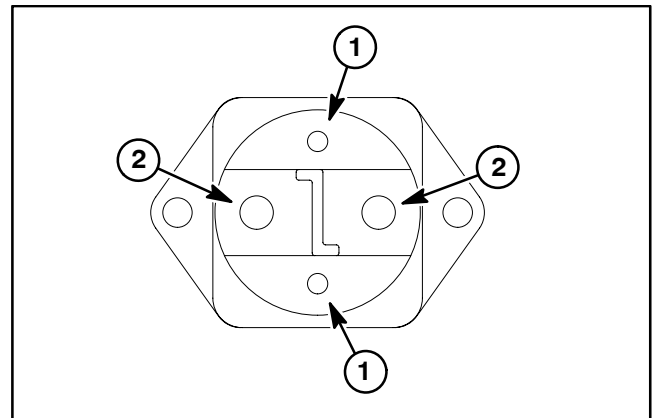

Figure 9
5. Apply 12 VDC directly across the solenoid coil posts (Fig. 9). The solenoid should click as it is energized. While energized, resistance across the main contact posts should be less than 1 ohm (continuity).